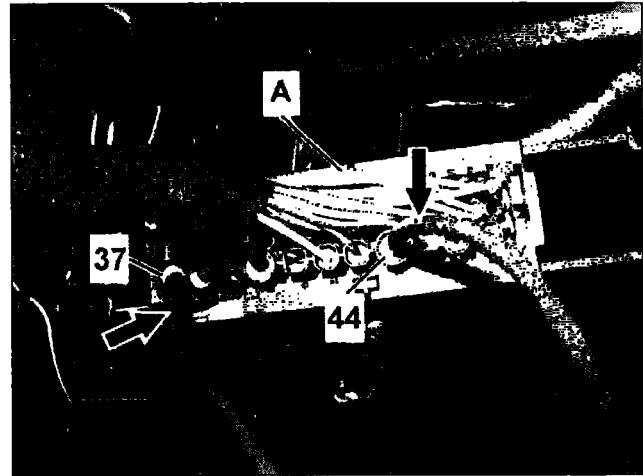

Figure 9
9. Remove SBC ground wires (arrows, Figure 9) from SBC harness connector (A):
- Unpin ground wire connectors (position 37 and 44) using cable release tool and remove from SBC connector housing (A) (special tool nos.: W 000 589 13 99 30 and W 220 589 01 99 50).
10. Insert the new ground wire harness (arrows Figure 9) into the SBC connector housing (A):